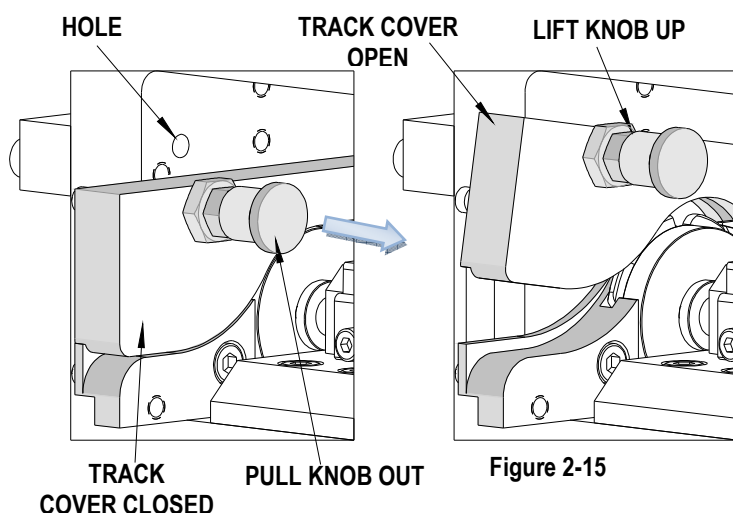

Figure 2-15
4. Open the tape track cover by pulling out the spring-loaded knob and lifting the cover up. A hole is provided in the module frame for the knob's pin to enter to hold the track cover open. See Figure 2-15.